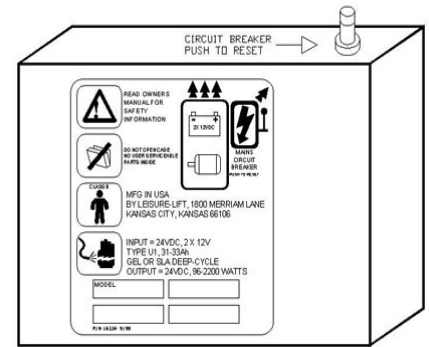

FIGURE 14
2. Some styles have a visible circuit breaker. It is located on the black controller housing near the chrome seat post (See FIGURE 14). You will not see any white on the button when it is switched in the correct operating position. Also check to see that all of the wires are securely attached to the box.